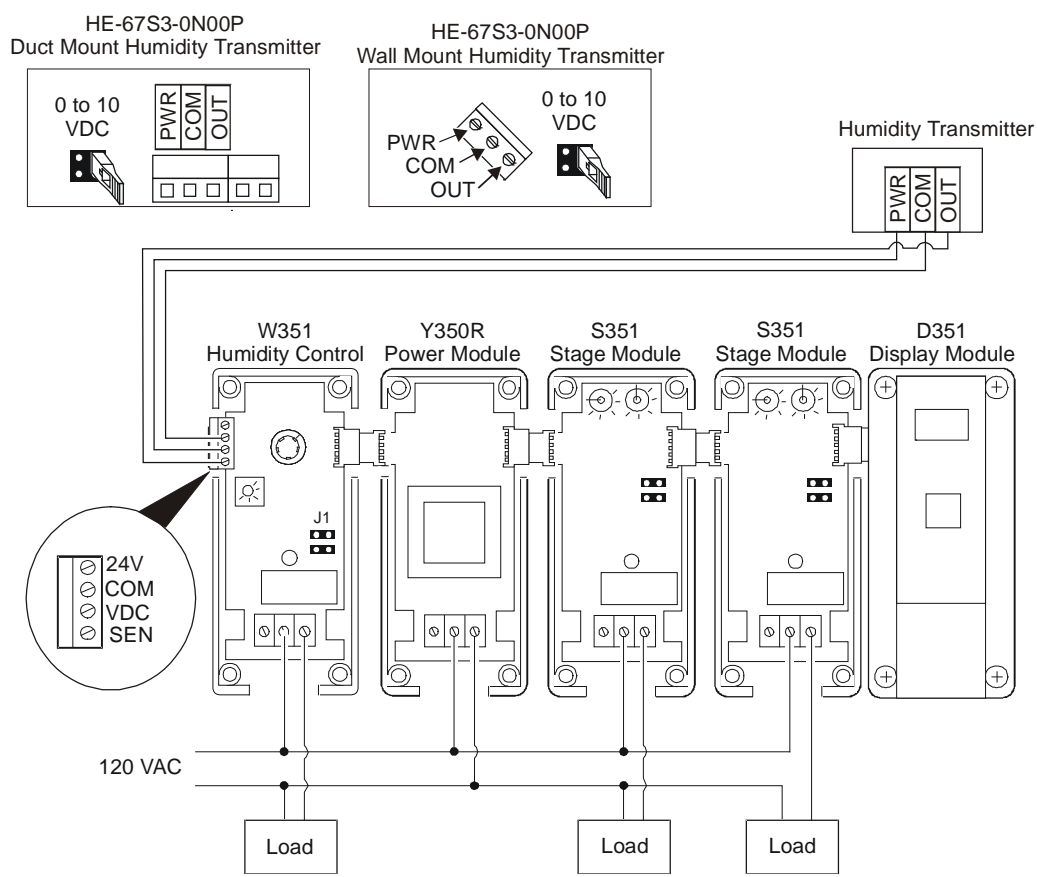

Figure 5: W351 Humidity Control (Dehumidification Mode) Powered by an External Transformer with the Humidity Transmitter Less Than 50 Feet from the W351 Control
See Figures 5 and 6 for proper wiring and terminal designations.
Connect the transmitter to the W351 control at the four-conductor screw terminal block, located at the upper left of the circuit board. (See Figures 5 and 6.)
The S351 Stage Modules, D351 Digital Humidity Display Modules, and Y350R Power Modules plug together and connect to the W351 Electronic Humidity Control via connectors on the sides of each add-on module. The recommended order of the modules is shown in Figures 5 and 6.
- a. Connect a Digital Voltmeter (DVM) between the 24 V (+) and COM (-) terminals located on the W351 control's left-side terminal block. (See Figures 5 and 6.)